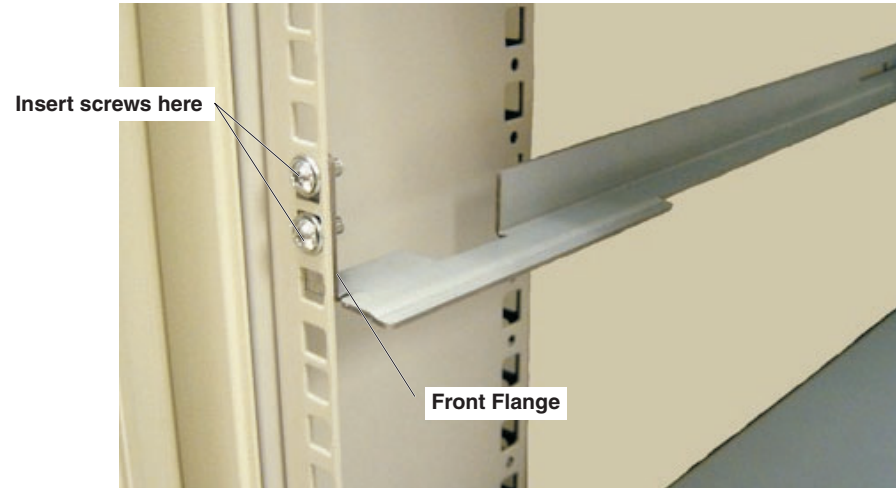

Figure 8. Attaching the left side rail to the front of the rack
1. Position the left-side set of rails in the rack so that the front flange is inside the front screw holes in the rack (see Figure 8).
2. Insert two M5 screws (the black screws from the kit) through the front flange of the rail (see Figure 8). Attach a nut to each screw. If your rack has square mounting holes or the holes are much larger than the screws that are provided in the kit, use a washer with the nut. Finger-tighten the nut.